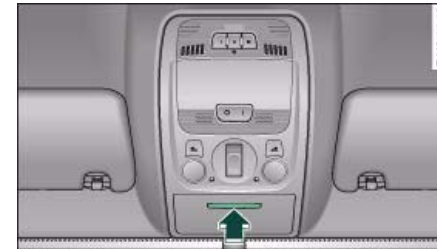

Fig. 105 Compartment for (sun)glasses in headliner
- To open the cover, lightly press the panel ⇒ fig. 105 (arrow). The cover will then open by itself.